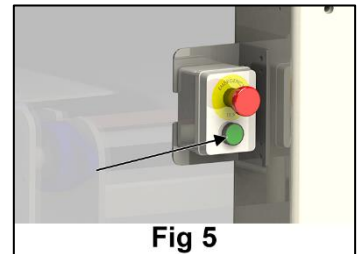

Fig 5
3. Press the green POWER ON push button. See Fig. 5.